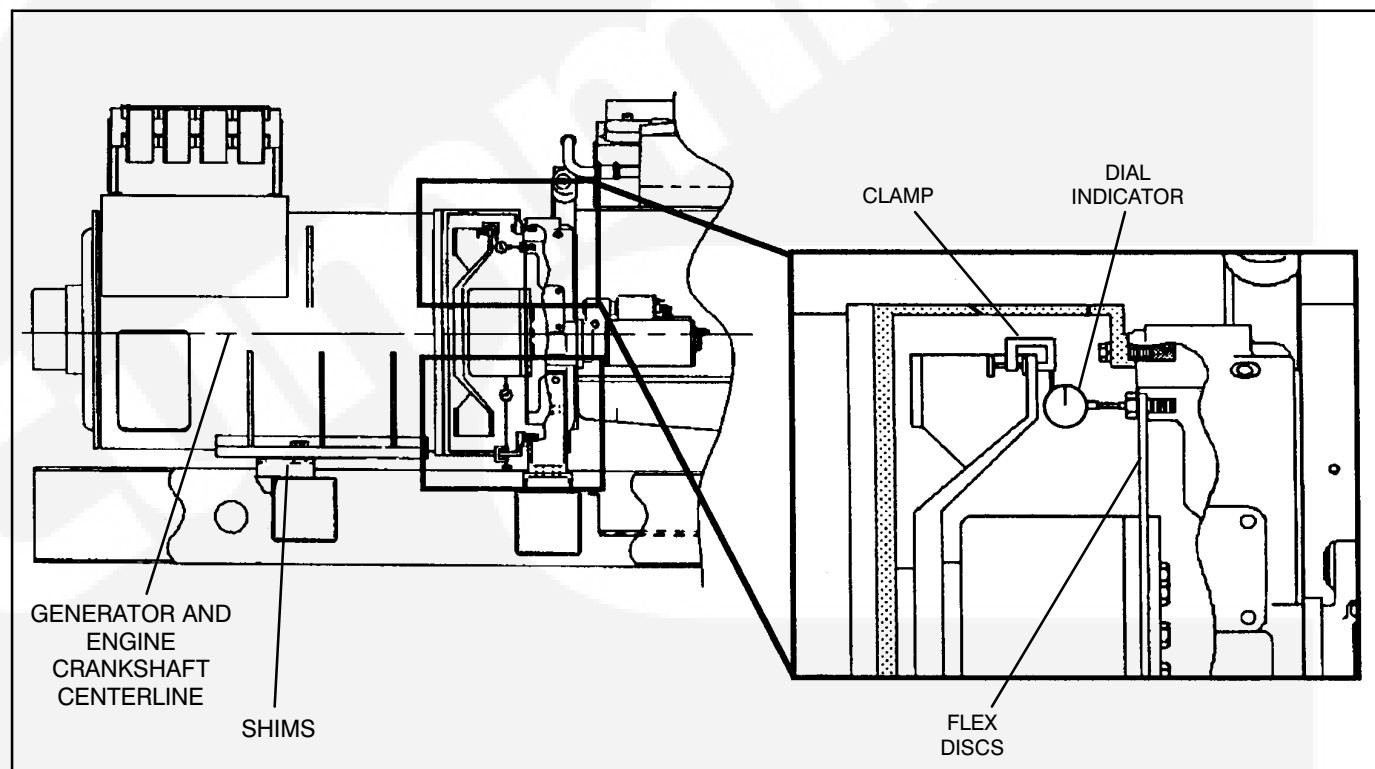

FIGURE 3-4. ANGULAR ALIGNMENT MEASUREMENT
disc at the bolt circle diameter, see Figure 3-4. Bar the engine over in a clockwise rotation as viewed from engine flywheel. Do not allow it to roll back on compression at the end of the travel of each reading. It is unnecessary to zero the indicator since the total indicator reading (T.I.R.) of the deflection measurement to the bolt heads is what is required. T.I.R. will be the sum of the maximum positive and negative dial indicator readings as the engine completes one revolution.
2. Measure the distance from the generator side of the flex discs to the center of the generator mounting bolt, refer to Figure 3-4. (For example; a HC6 Frame's distance is 28.4".)